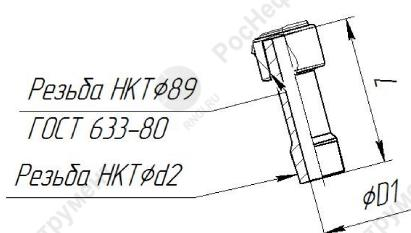
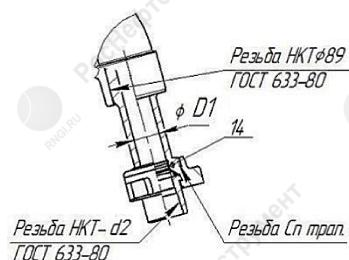

Figure 2.
Figure 3.
*It is possible to making adapter sub with other technical features at costumer's request. (Table 2). Feedline subs (fig. 2) and BRS2" sub (fig. 3) may be delivered at consumer's request.